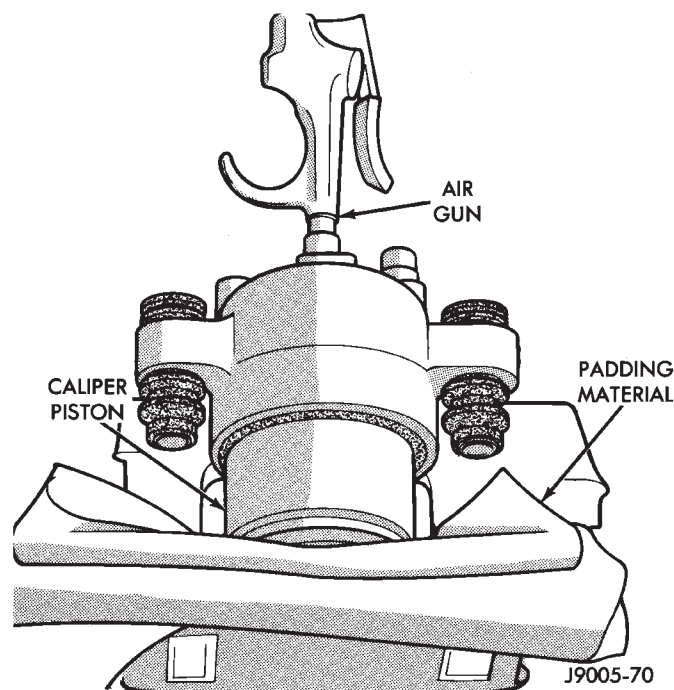

Fig. 66 Caliper Piston Removal
(4) Remove caliper piston with **short bursts** of low pressure compressed air. Direct air through fluid inlet port and ease piston out of bore (Fig. 66).